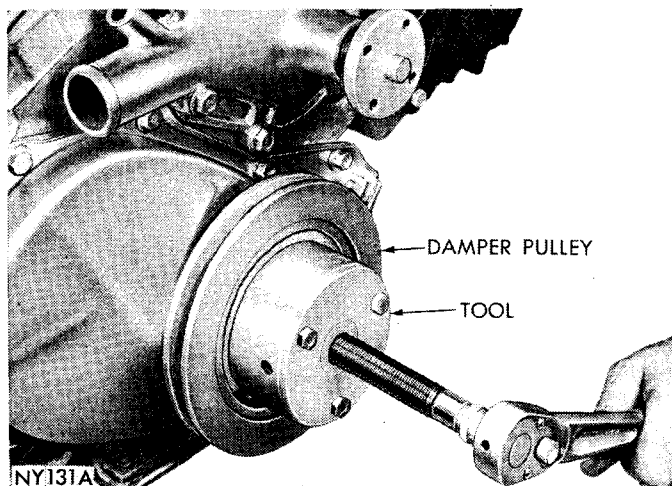

Fig. 17—Removing Vibration Damper Assembly
- (1) Drain cooling system.
- (2) Remove radiator and fan.
- (3) Install Tool C-3732A and pull vibration damper assembly off end of crankshaft (Fig. 17).
- (4) Loosen oil pan bolts to allow clearance and remove the chain case cover and gasket.